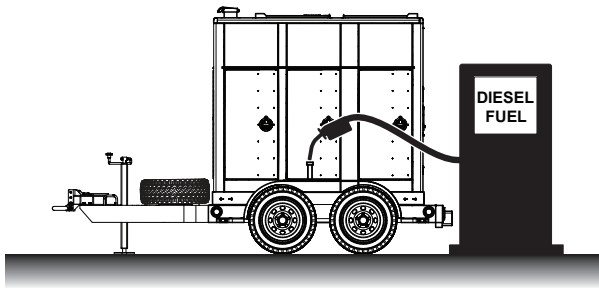

Figure 14. Fueling the Generator
2. Remove fuel cap and fill tank (Figure 14).